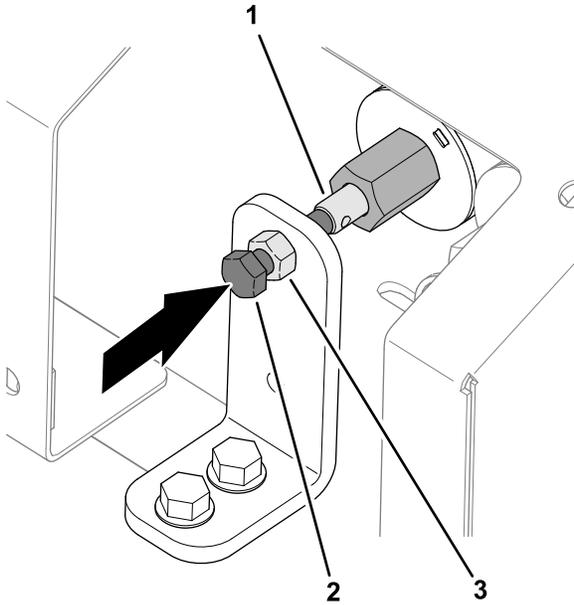

Figure 31
1. Loosen the jam nut at the manual-override bracket (Figure 31).
2. Rotate the hex-head screw for the valve override clockwise to increase the floor speed (Figure 31).